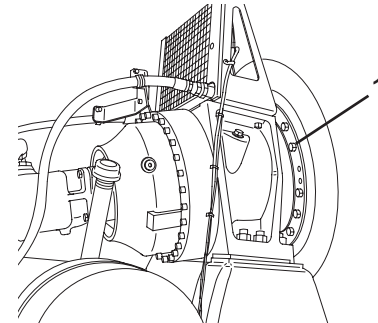

Figure 165
8. Check the drum flange bolt (Figure 165, Item 1) torque. (Refer to the Service Manual for torque values.) If a bolt turns during this check, that bolt must be removed and replaced with a new Grade 8 bolt.